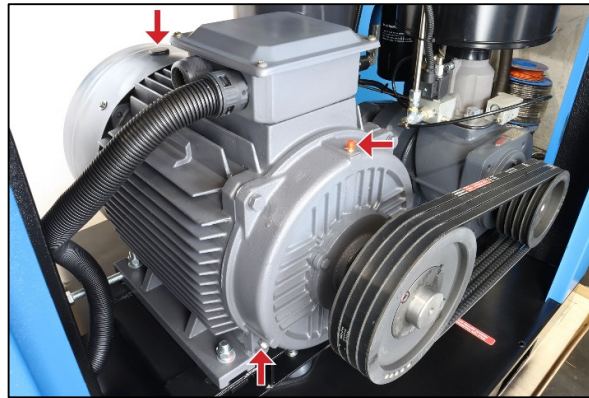

Figure 8 Motor Bearing Re-Greasing (NDE grease drain not shown)
- a. Locate the grease nipple on top of each DE and NDE bearing and also the grease drain plugs underneath (that may be offset to one side). Refer to Figure 8. It is often necessary to temporarily remove the motor fan cowl on the non-drive end to access these points.